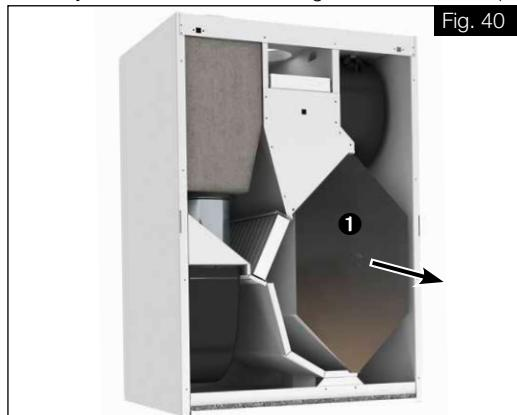

Fig. 40
3. Carefully remove the heat exchanger 1 from the unit (see Fig. 40).